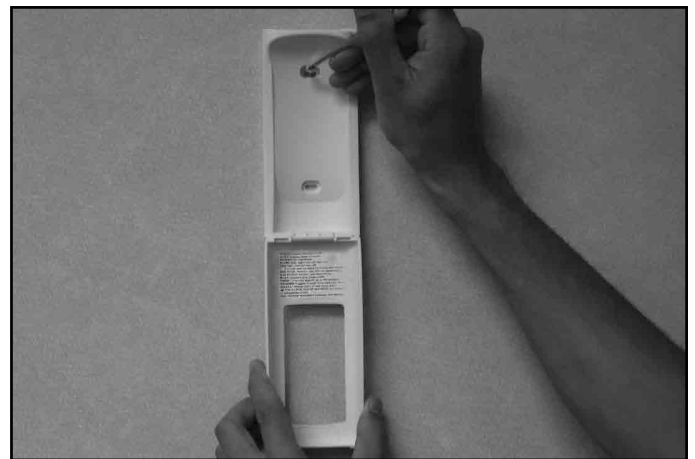

Figure 12.5 - Mounting Remote Control Housing
3. Secure the remote control housing on a flat wall surface using the two screws and wall anchors provided. See Figure 12.5.